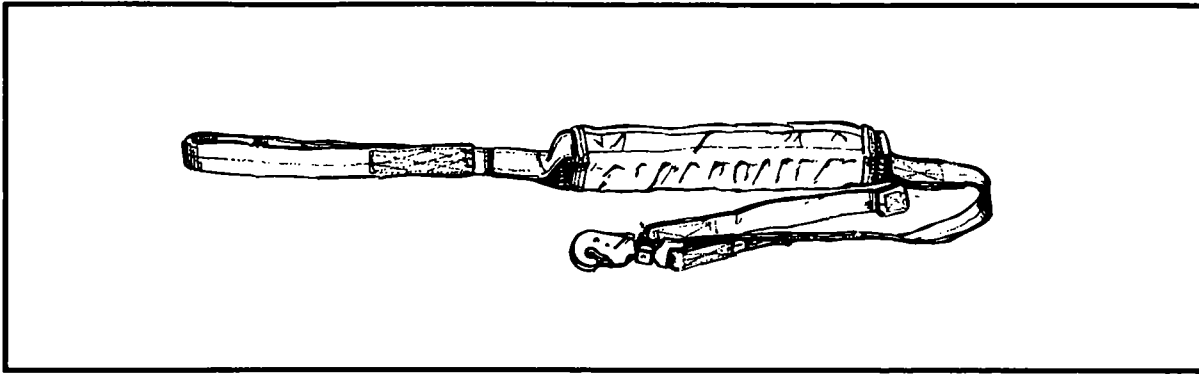

Figure 6-55. Standard lowering line stowed.
- (1) S-fold the lowering line neatly on top of the web inside the retainer, ensuring that ends are stacked evenly with the retainer over edges. Secure the pile tab on web located at the quick-ejector snap end to hook extension on retainer.
- (2) Fold the hook side of the flap tightly over S-folded lowering line and, holding it firmly, fold the pile side of flap over and secure hook and pile together.
- (3) Secure the pile extension on the flap retainer to the hook tab at the loop end of the lowering line (Figure 6-55).